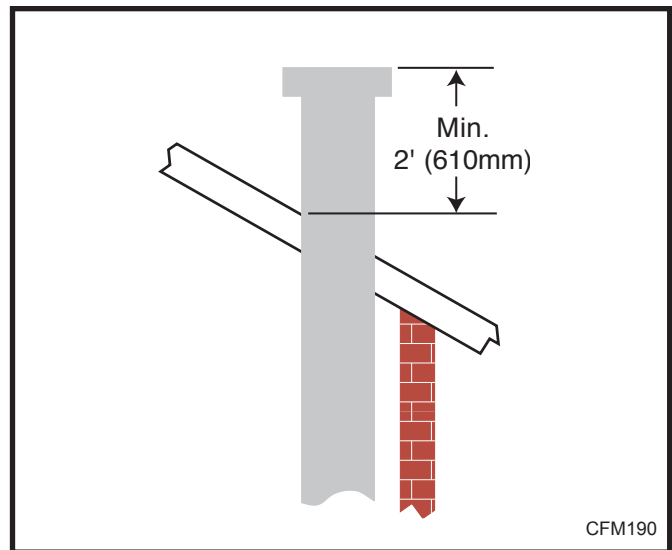

Fig. 37 Minimum termination to roof clearance.
For vertically venting either propane or natural gas units, with vertical vent heights of 12' (3.7m) or greater, (measured from the top of the flue collar) the restrictor plate as supplied with this unit should be used. (Fig. 28) Refer to Page 21, Figure 37 for restrictor plate installation.
- The minimum height of the vent above the highest point of penetration through the roof is 2' (610 mm). (Fig. 37)
10. Add additional vent lengths for proper height. (Fig. 37)